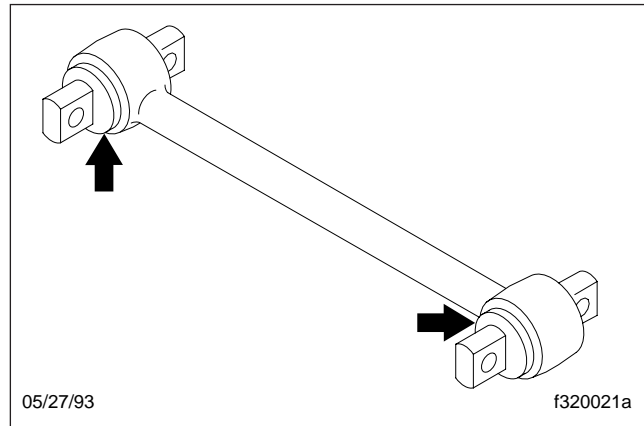

Fig. 2, Torque Arm Bushings
5. Inspect the rubber bushing ends. See **Fig. 2**. Replace the torque arm for any of the following reasons: